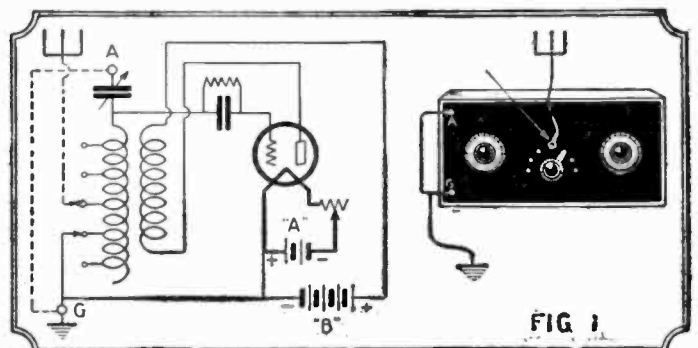

FIG. 1
Fig. 1 shows the simplest way and probably the best. The aerial is disconnected from its terminal and the aerial and ground terminals are connected by a short piece of
**M**ANY people who have heard phonographs of the new types that have lately appeared on the market have said to themselves, "I would like to have one of those." Then, when they inquire what the cost is and what they can get for their old phonograph, they find that it involves a considerable outlay of money. With the idea in mind of providing something more simple and easier of construction, the little device described in this article was developed. As may be seen from the circuit shown in Fig. 1, it is simply an oscillator coupler and a vacuum tube which generates a constant radio-frequency current. The amplitude of this constant frequency is varied by the small condenser in the pick-up, and the radio-frequency current thus modulated is fed into the receiving set through the antenna and ground binding posts. Within the set this current is treated in the same manner as a similar current received over the air from a broadcast station. As a matter of fact, this adapter is nothing more than a miniature station, by means of which you can have whatever type of entertainment you desire—limited only by the records in your phonograph album.